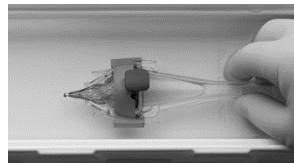

Figure 31
5. Secure the outflow cone onto the inflow cone until it locks (Figure 31).